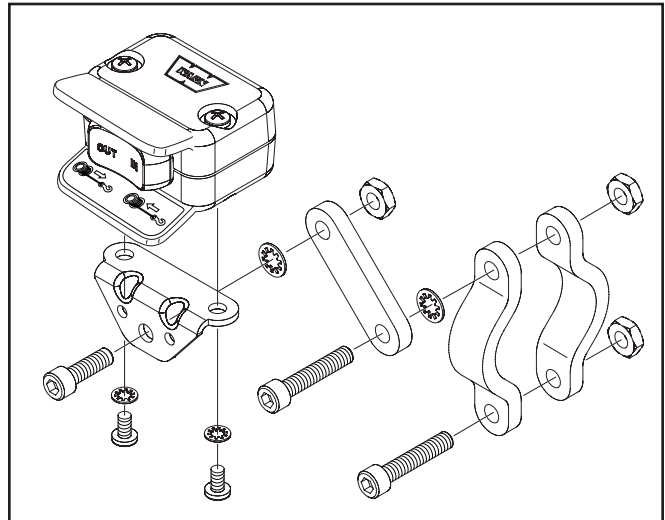

Figure 9 Switch Unassembled
2. Find a place on the handlebars where the switch will be mounted. Wrap one or two layers of electrical tape around this location to improve clamping. Place a clamp on either side of the handlebar and assemble the switch and its mounting bracket, strap, and clamps as shown in Figure 9.